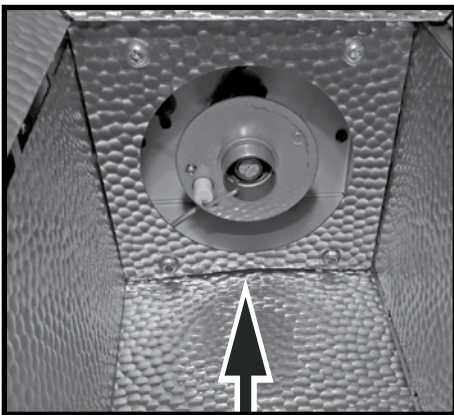
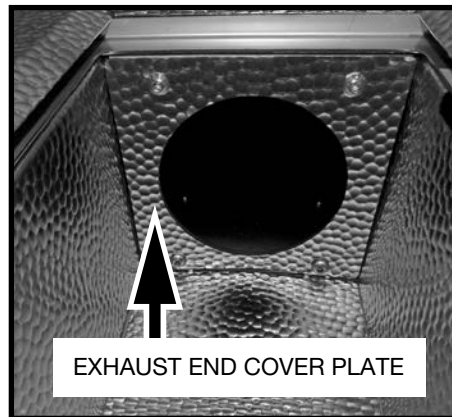

Figure 30: Rear decorative panel with bow visible.
Figure 31: Exhaust end cover plate.
7. Remove burner end and exhaust end cover plates screw using a 5/16 Allen key (Figure 30 and Figure 31).